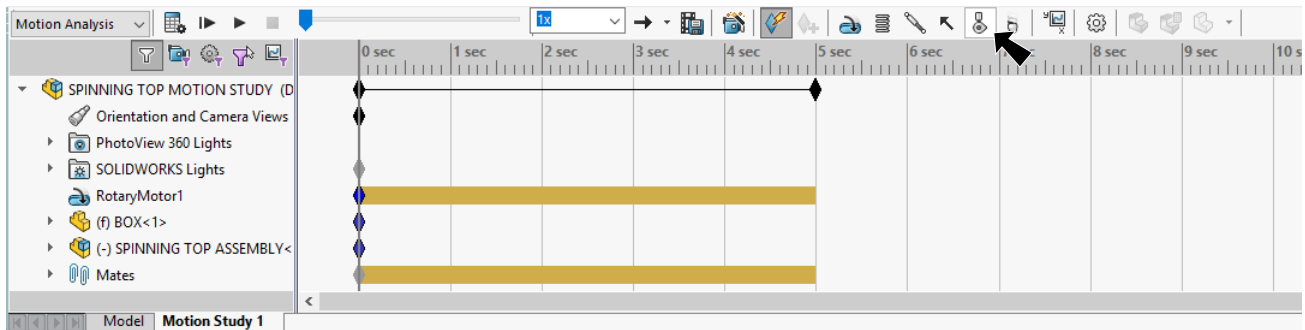

Fig. 6
Step 1. Click **Contact**  on the Motion Manager toolbar, **Fig. 6**.